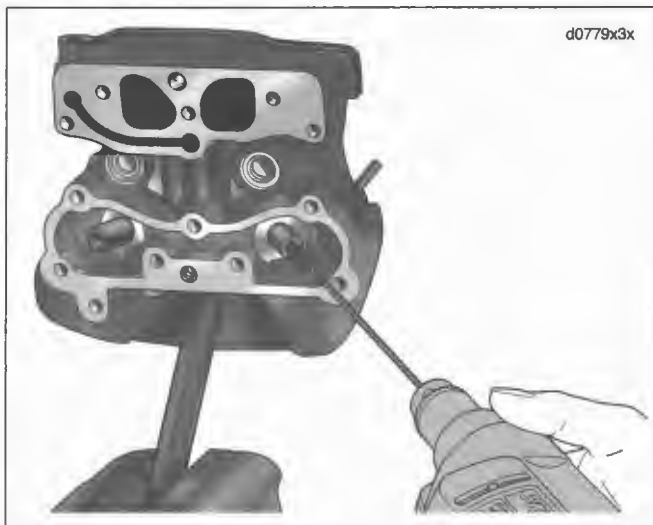

Figure 3-106. Honing Valve Guide Bore
8. See Figure 3-106. Obtain the VALVE GUIDE HONE (Part No. B-45525) and REAMER LUBRICANT (Part No. HD-39964).